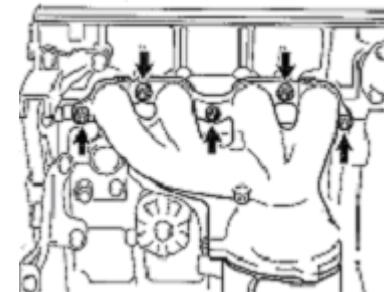

Figure 28
- 43. Detach exhaust manifold. See (Figure 28)**